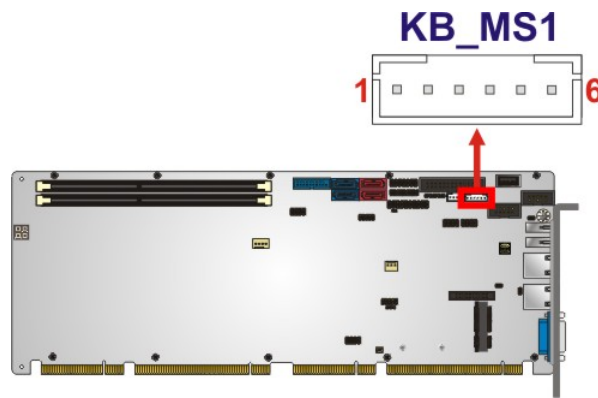

Figure 3-15: Keyboard/Mouse Connector Location
- CN Location:** See **Figure 3-15**